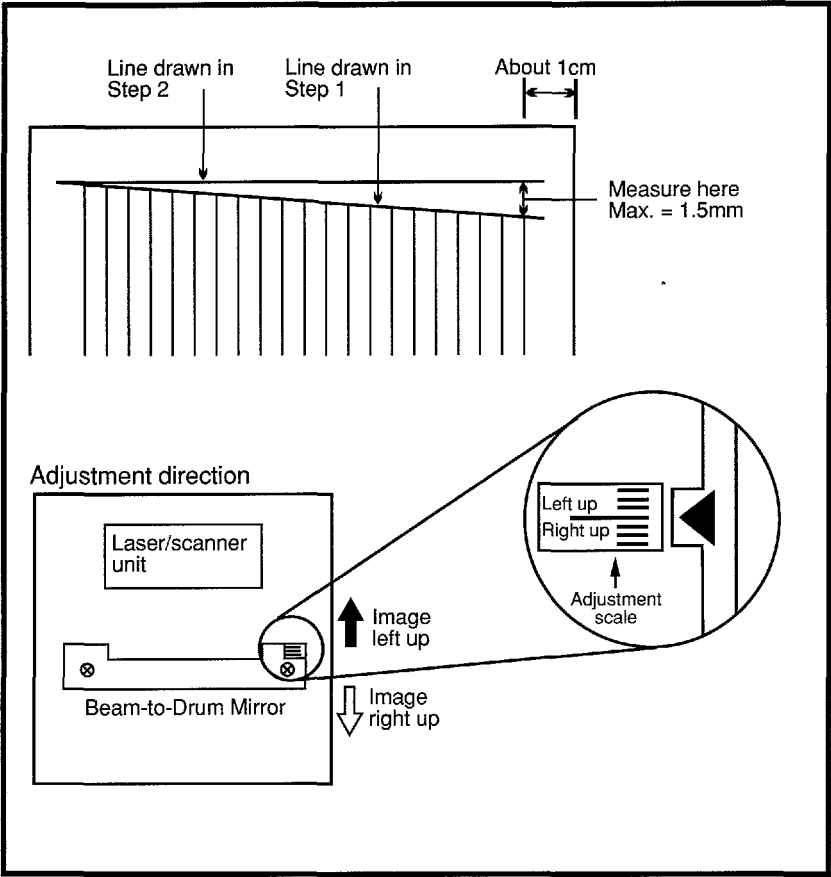

Figure 7-8 Beam-to-Drum Mirror Adjustment
4. Measure the error between the lines drawn in step 2 and step 3 (see Figure 7-8). If the distance is greater than 1.5 mm, then adjustment is needed.